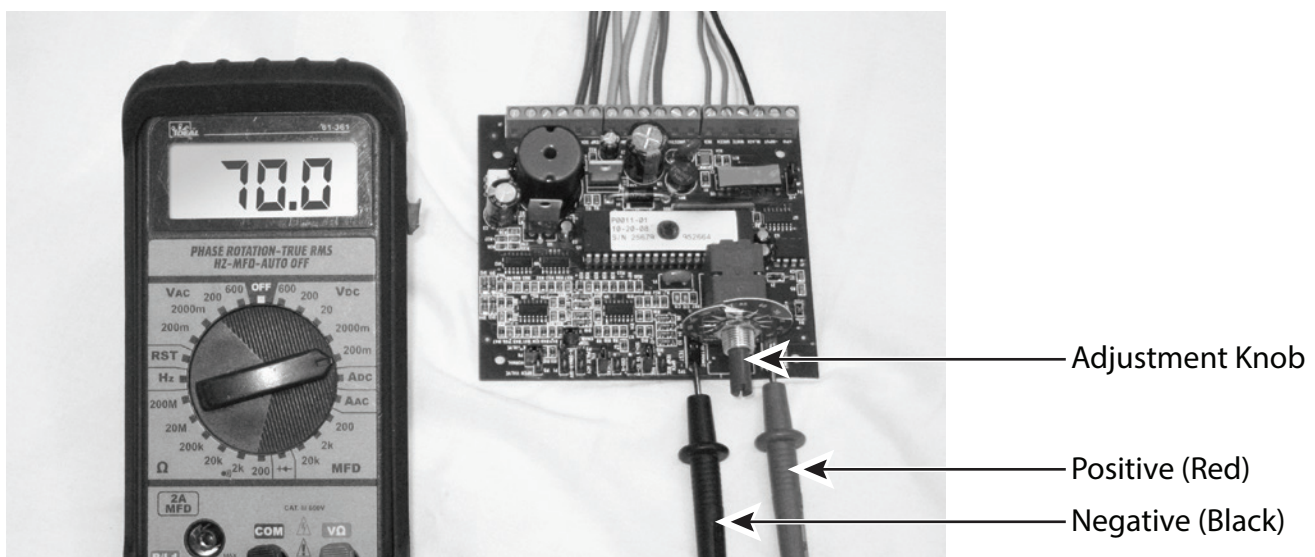

Figure 7 - Desired Temperature Set Point
2. Mount the sub-base on a level plane. Connect the thermostat wire to the unit terminal board and the thermostat as shown in Figure 7.